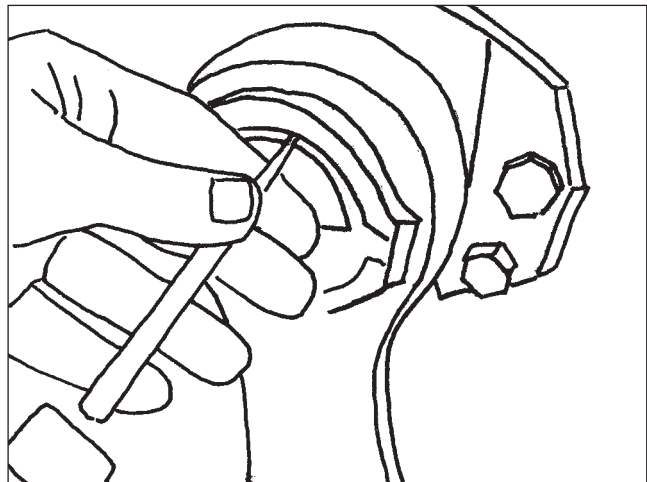

Figure 48
4. Use the small punch and ball peen hammer to bend the 2 restraining tabs out of the retainer so the retainer can be removed (**Figure 48**).